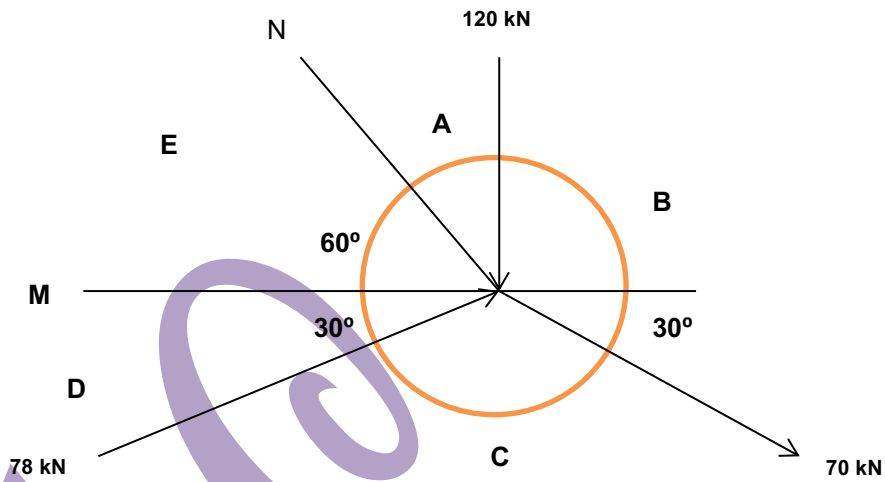

FIGURE 4
- 4.1 Determine graphically the magnitude and direction of the unknown forces N and M shown in FIGURE 4, DIAGRAM SHEET 2, by reproducing the given space diagram and completing the required vector diagram (force diagram) to scale 1 mm : 1 kN. (9)